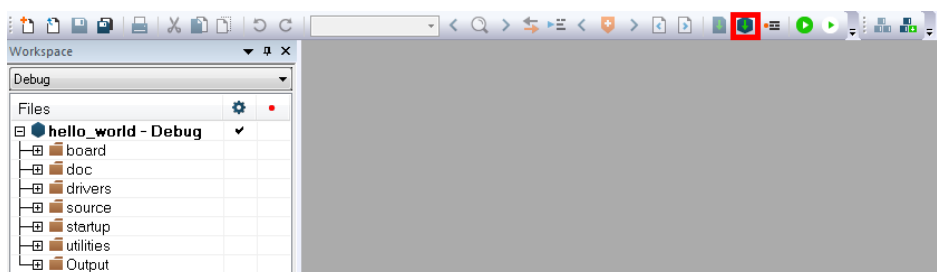

Figure 4. Build the demo application
3. To build the demo application, click **Make**, highlighted in red, as shown in in Figure 4.